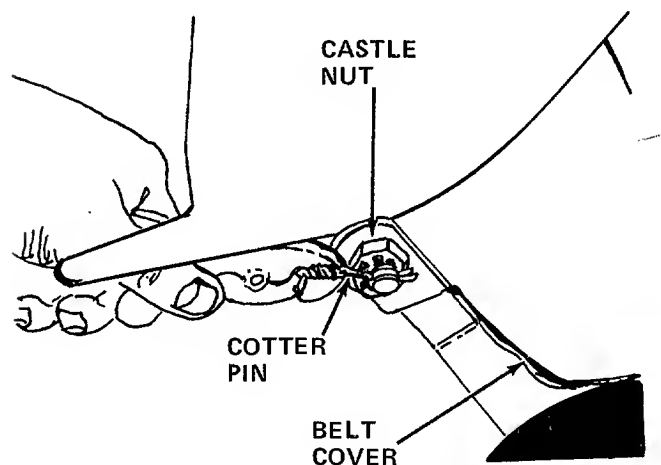

FIGURE 14
2. Remove the cotter pin securing the castle nut on the bottom of belt cover. See figure 14.